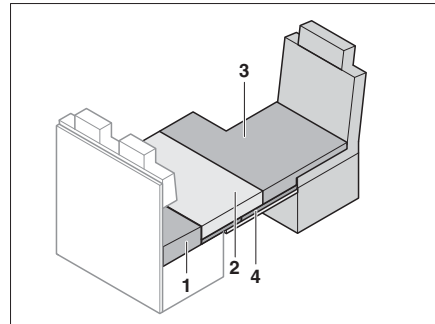

Fig. 171 After conversion
- Lay the additional cushion (Fig. 171,3) on the driver's seat.
- Lay the seat cushion (Fig. 171,2) on the guest bed foundation.
- Lay the back cushion (Fig. 171,1) between the seat cushion and the rear wall. Observe the wedged form.